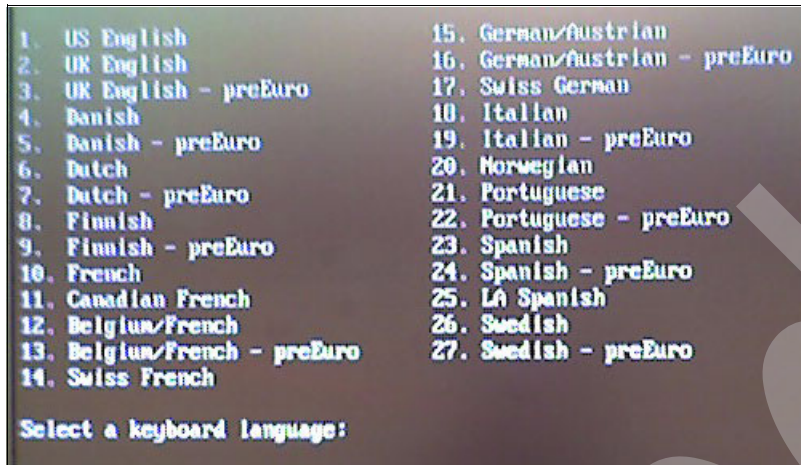

Figure 4-9 Thin Console: Select a keyboard
5. Select the keyboard language and press Enter (Figure 4-9 on page 103).